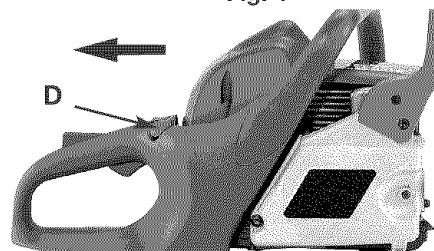

Fig. 5
5. Pull the blue lever (D) out as far as it will go until the blue lever stays out (Fig. 5). This advances the throttle so you do not have to hold the trigger while starting.